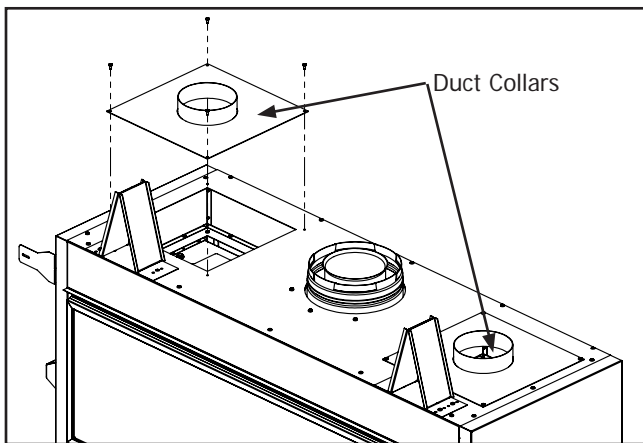

Figure 13. Duct Collars Installed
Step 2: Attach the supplied duct collars to the top of the cabinet as shown (Figure 13). Secure the collars by re-using the eight (8) screws saved in the previous step.